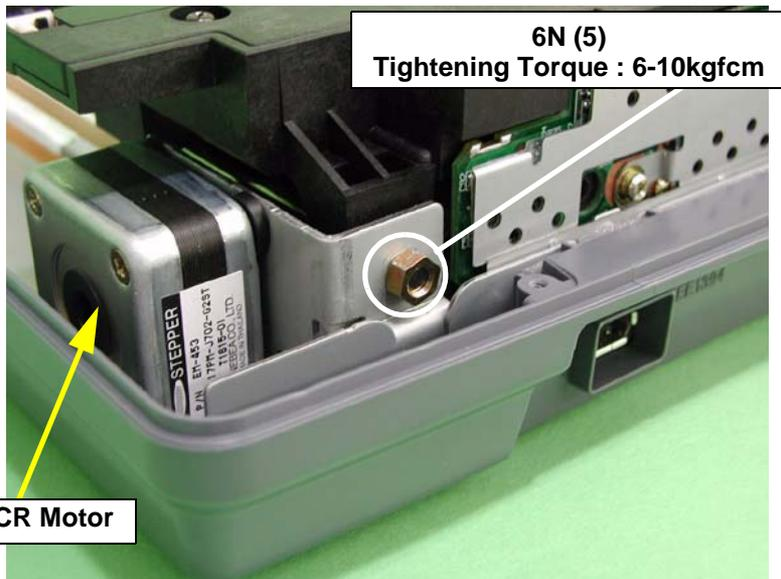

Figure 4-11. Carriage Unit Removal (1)
4. Remove the hex nut (6N, 5). (See Figure 4-11)